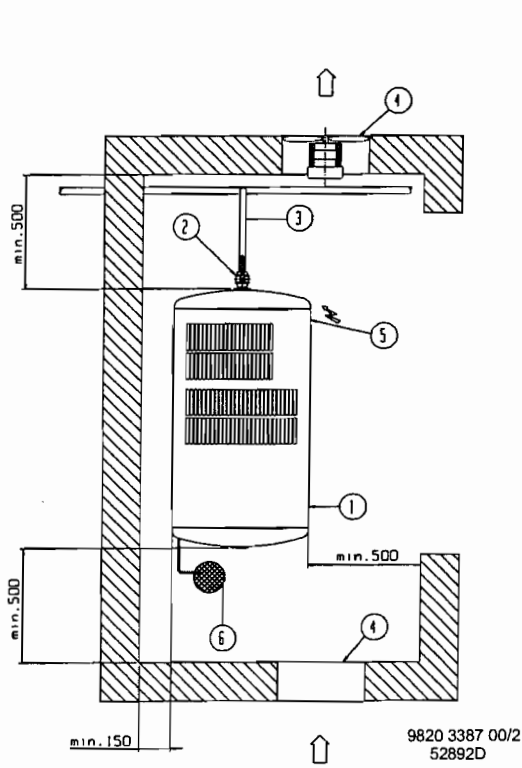

Fig. 2.5 Installation proposal GX5-11
**2.2 Installation proposals (Figs. 2.5 and 2.6)**